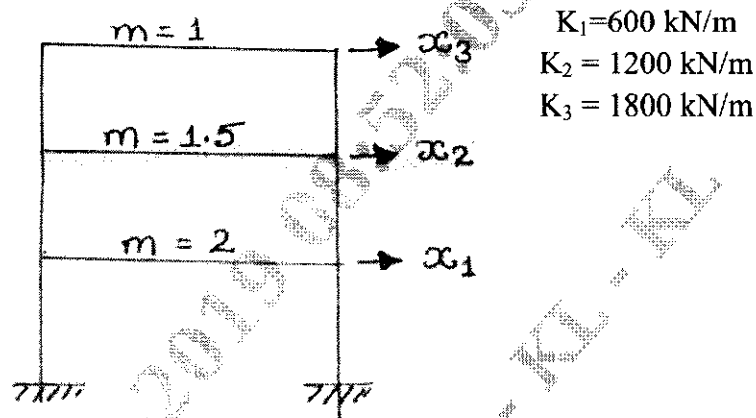

Fig. Q6
- 6 Determine the natural frequencies and mode shapes for the structure as shown in Fig. Q6.